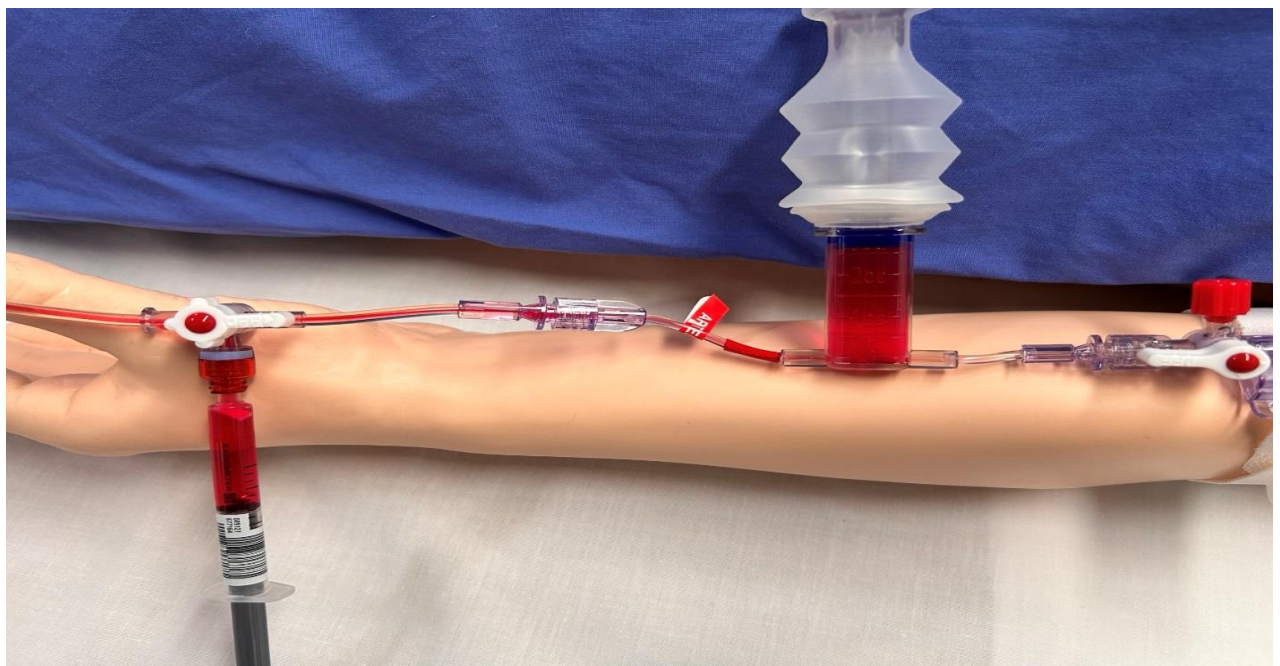

Figure 9.
4. Firmly insert the blood sample tube/s to the arterial line three-way port (Note: If blue (citrate tube) is required collect this first. **Collect the ABG last.** (See Figure 9 below.). You may need to manipulate the position of the patient's wrist to draw blood if the arterial line is positional.